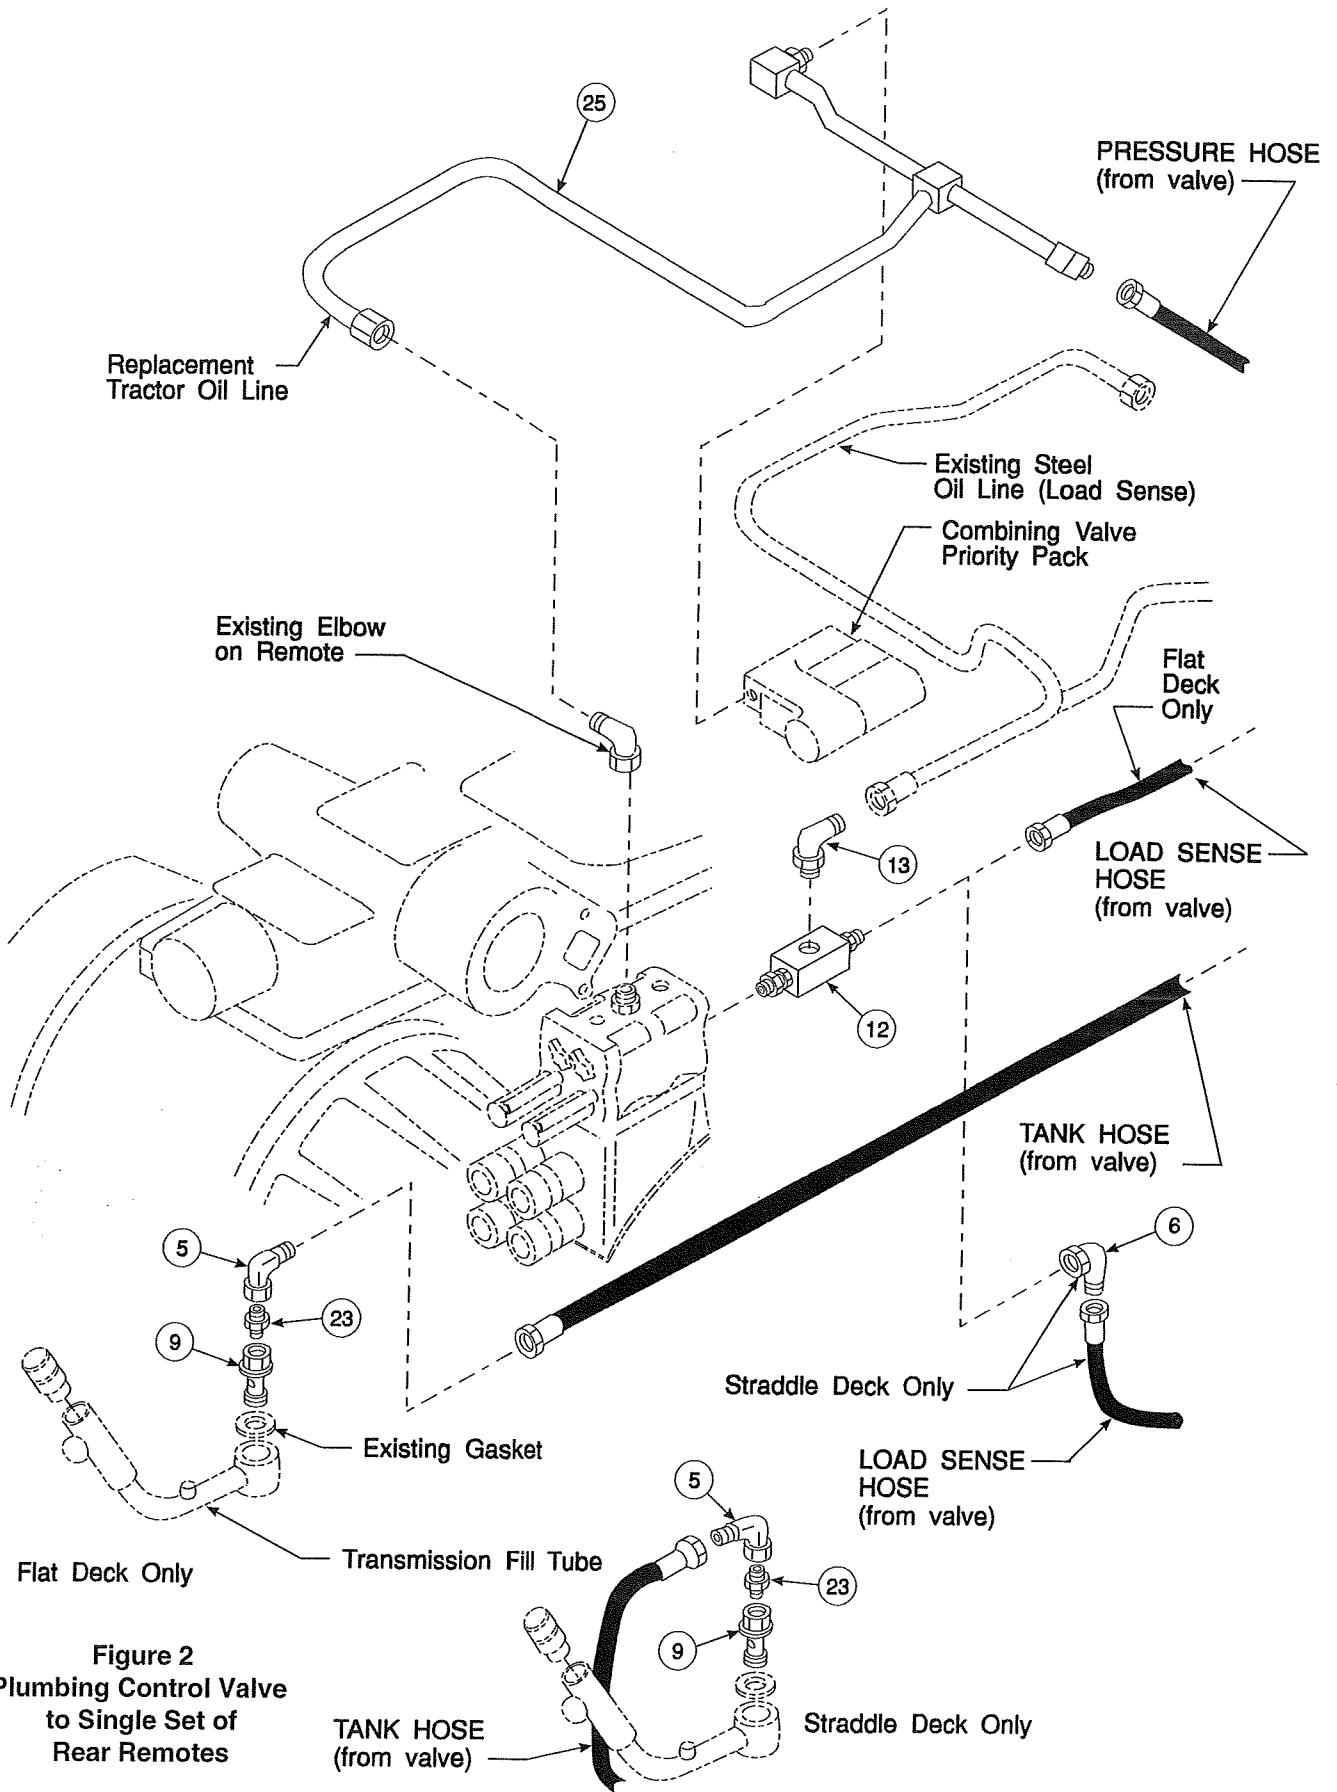

Figure 2
INSTALLING NEW PRESSURE LINE (Figures 2, 3, 4, 5 & 6)
PLUMBING VALVE TO TRACTOR (Figures 2- 4)
Install 7/8 JIC adapter fitting (23) and 7/8 x 7/8 x 90° elbow (5) into return port (9). Connect 1/2 x 108 tank hose to elbow fitting (5). Figures 2, 3 & 4 show proper hose routing for flat deck and straddle deck tractors.
2. Connect pressure line (25) to elbow in rearmost port on top of control valve.